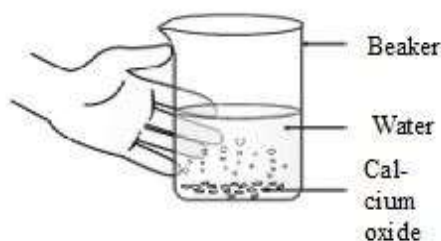

Fig. 4.2. Formation of slaked lime by the reaction of calcium oxide with water
- ☞ Touch the side of the beaker as shown in Fig 4.2.